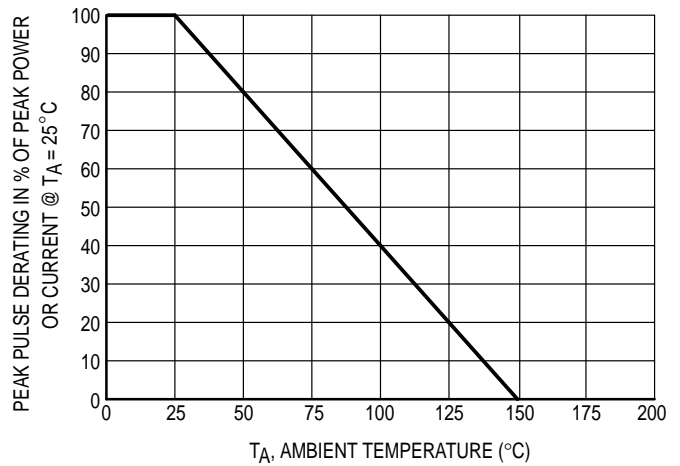
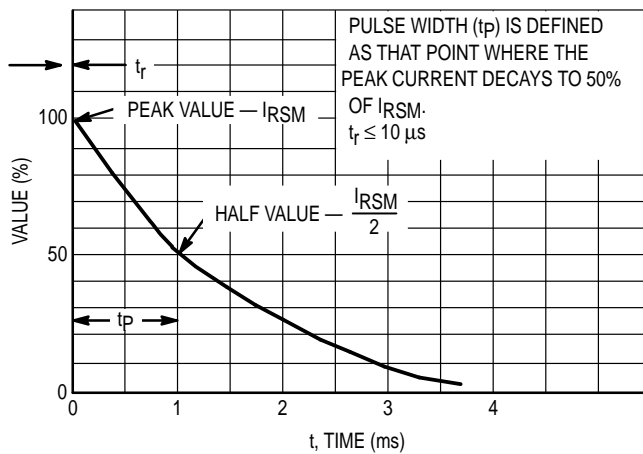
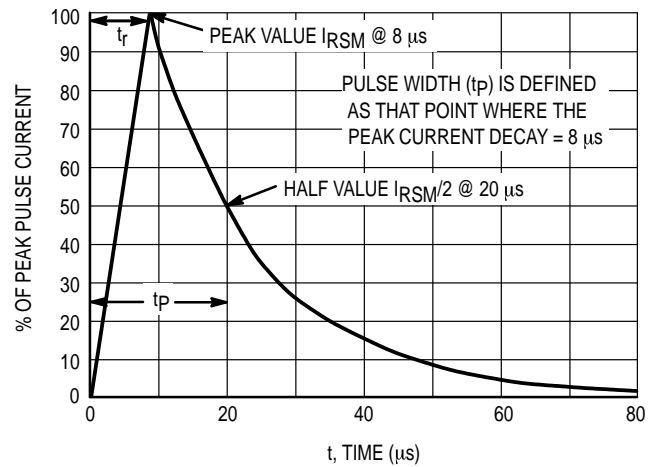

Figure 4. Pulse Derating Curve
Figure 5. 10 × 1000 μs Pulse Waveform
Figure 6. 8 × 20 μs Pulse Waveform
- Peak Power — Min. 24 W @ 1.0 ms (Unidirectional), per Figure 5 Waveform
- Peak Power — Min. 150 W @ 20 μ s (Unidirectional), per Figure 6 Waveform
1. Non-repetitive current pulse per Figure 5 and derate above $T_A = 25^\circ\text{C}$ per Figure 4.
2. Non-repetitive current pulse per Figure 6 and derate above $T_A = 25^\circ\text{C}$ per Figure 4.
(5) V_Z measured at pulse test current I_T at an ambient temperature of 25°C.
(6) Surge current waveform per Figure 5 and derate per Figure 4.
(7) Z_{ZT} is measured by dividing the AC voltage drop across the device by the AC current supplied. The specified limits are I_{Z(AC)} = 0.1 I_{Z(DC)}, with AC frequency = 1 kHz.